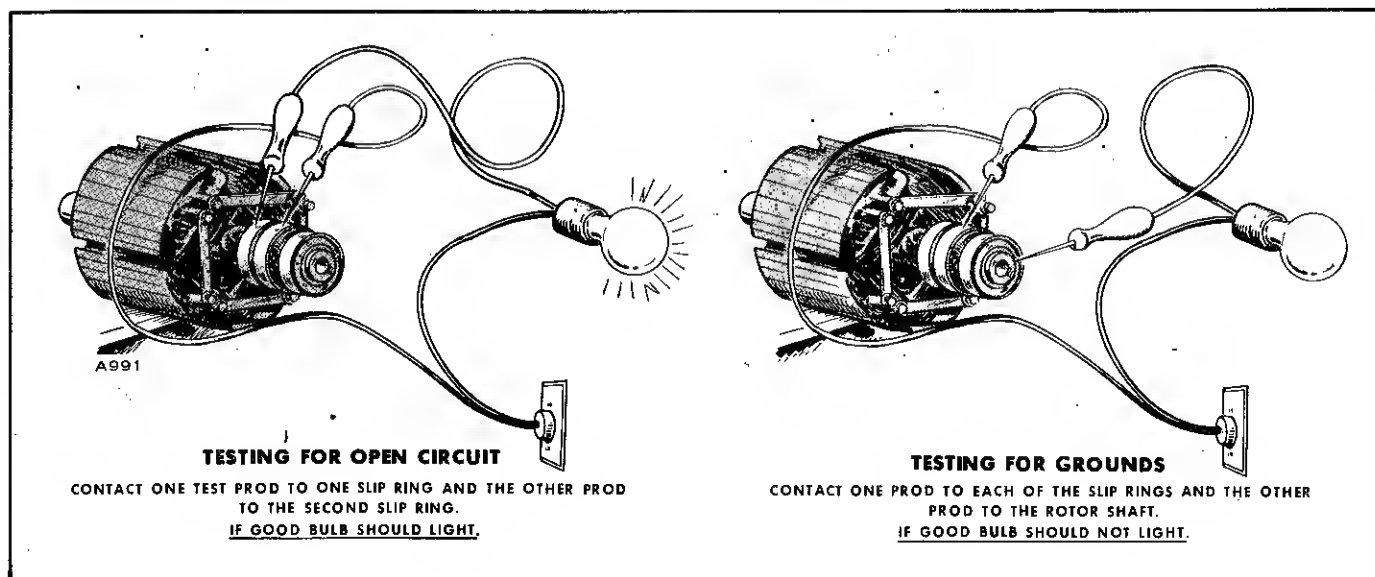

FIGURE 82. 120 VOLT AC TEST LAMP
2. Test for a short or open circuit in rotor winding, by measuring resistance of winding. It should measure between 3.5 and 4.8 ohms for the JB and between 2 and 3 ohms for the JC (at 70°F). If an accurate ohmmeter isn't available, check the rotor for open circuit or grounding with an AC test lamp (Fig. 82). Replace the rotor if it is grounded, or has an open circuit or short.